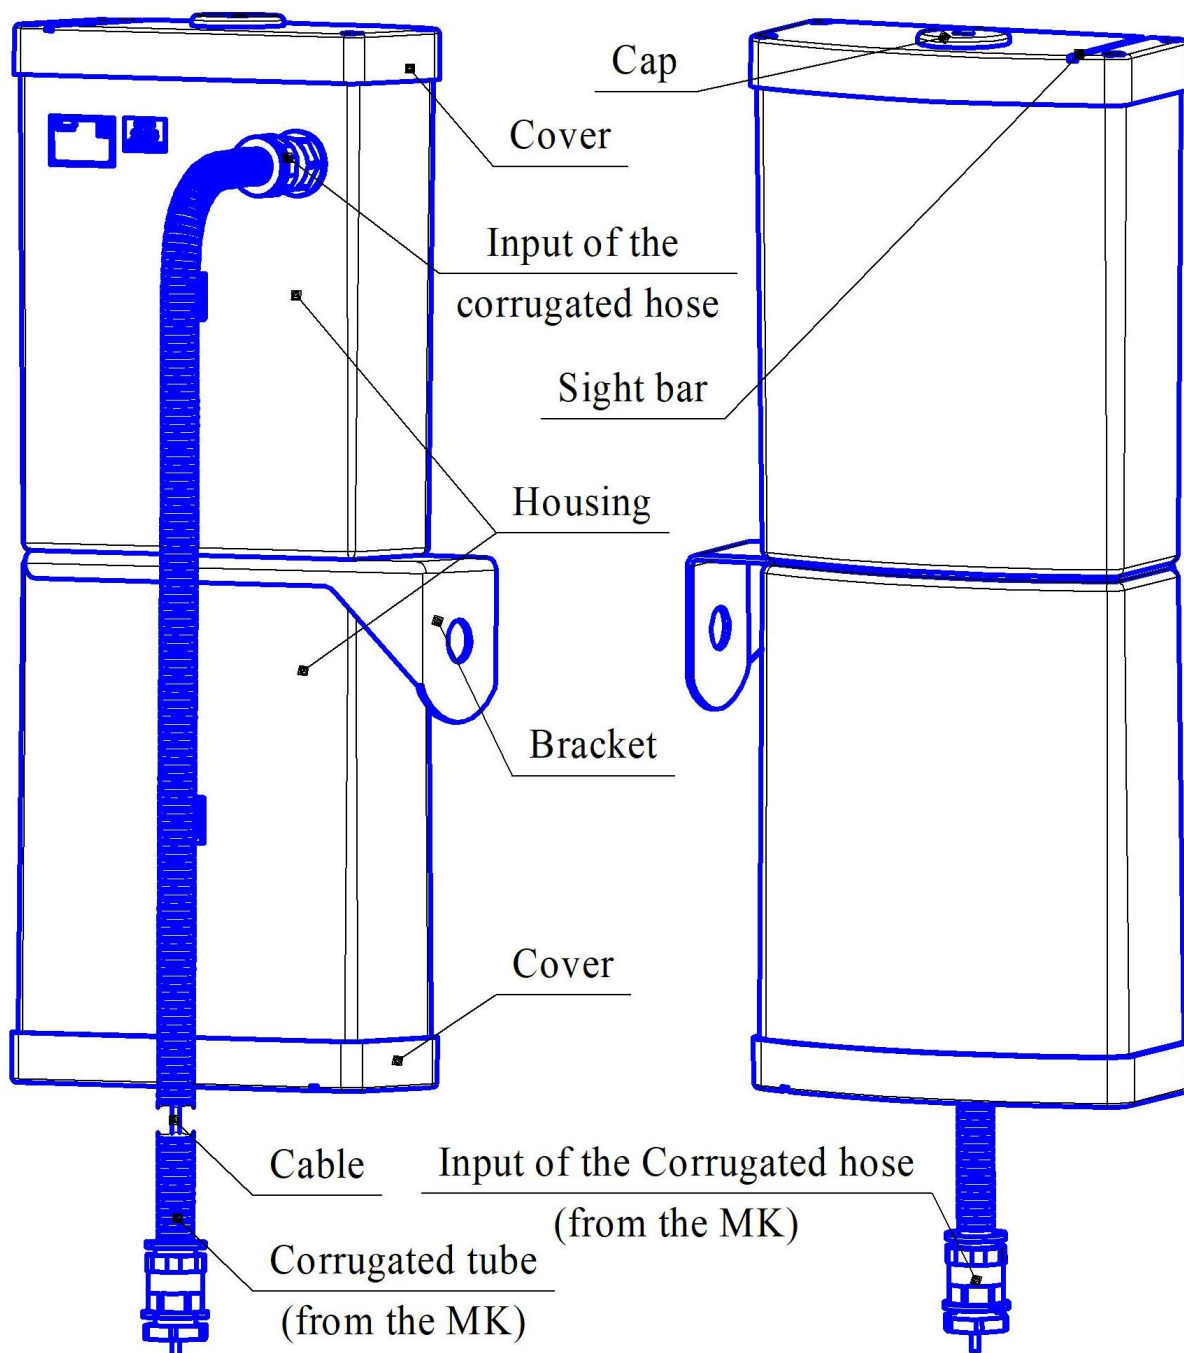

Figure 1.5 – The design of the Tx unit (Rx unit) of the sensors BARRIER-M300, BARRIER-M500
1.4.3.1 The Tx unit (overall dimensions 395x182x100 mm) (see Figure 1.5) contains two connected with each other plastic housings, with microwave modules and parabolic insertions inside. The upper housing contains the modulator with configuration elements. The housings are covered with covers. The lower cover contains three holes, preventing the condensate inside the Tx unit. On the upper cover there is a sight bar to make it easy to adjust the sensor. The configuration elements are covered with a cap. The cap is protected against unauthorized opening with a button. The unit contains a bracket for pole mounting. Use the 5-core cable brought out from the unit through the input of the corrugated hose to connect the Tx unit to the junction box or power supply unit.
1.4.3.2 The Rx unit (overall dimensions 395x182x100 mm) (see Figure 1.5) contains two connected with each other plastic housings, with microwave modules and parabolic insertions inside. The upper housing contains the processing board with configuration elements. The housings are covered with covers. The lower cover contains three holes, preventing the condensate inside the Rx unit. On the upper cover there is a